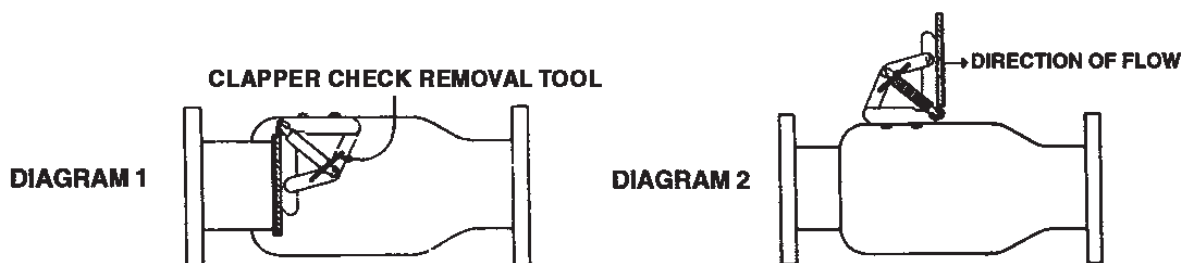
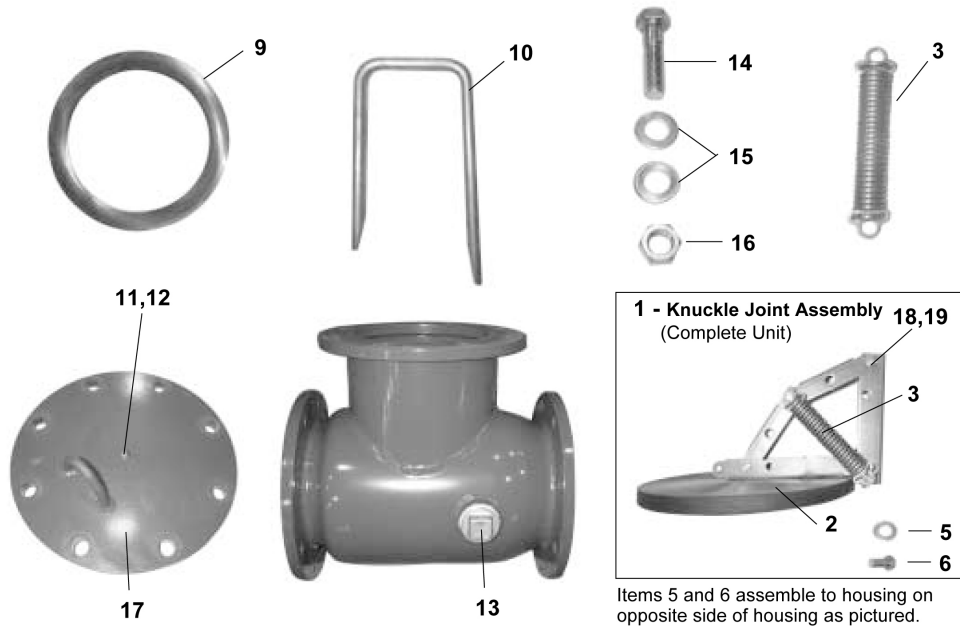

Figure 3: Clapper check removal tool
Figure 5: Check valve
4. Install proper size clapper check removal tool (see diagram 1 in Figure 3 and Item 10 in Figure 5). Be sure tool is pushed to within 1/2" of linkage.